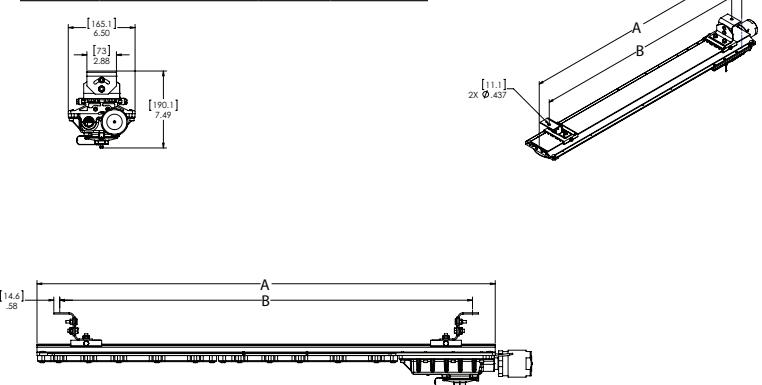

Figure 4. ZP1050MTK Swivel Mount Installation
2. Mark and drill holes for fastening swivel brackets. Use two (2) 3/8" bolts (not supplied) at center to center measurements. For swivel brackets, holes may be spaced as required. For the four foot, it is required to keep them at least 18" (457mm) apart (see Figure 4) (see table for full mounting range).
3. Fixture is now ready for mounting. It is strongly suggested to use two (2) qualified tradespeople to proceed with the final mounting of the fixture. This is recommended to avoid any personal injury or damage to the fixture.